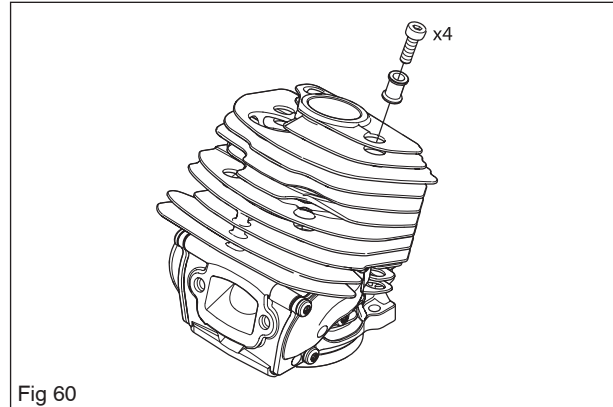

Fig 60
2. Unscrew the cylinder’s four screws and carefully lift away the cylinder and the gasket. See figure 60.